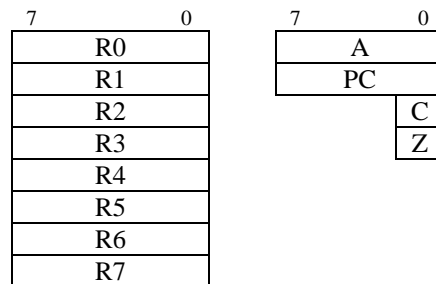

Figure 1 Programmer's model
Wimp51 uses a subset of the 8051's instruction set. It's name comes from the fact that the designer constructed it over a weekend and it is intended for instructional use, not for heavy-duty computation! The Wimp51 has a simpler structure than the 8051 as might be expected. The programmer sees Wimp51 as a collection of registers. We often refer to this as the *programmer's model* of a computer. The Wimp51 has an eight bit accumulator (A), eight 8-bit registers R0 through R7, a program counter PC, a carry flag (C), and a zero flag (Z). The C bit is a one bit register that holds the carry out of an addition. The Z flag is actually just all of the accumulator bits NOR'ed together. If all of the bits of the accumulator are equal to zero, the Z flag is equal to 1, otherwise equal to 0. Wimp51 requires an external read-only memory in which to store encoded instructions and has address, data, and control buses to communicate with its memory. The most significant bit of a register is numbered 7, while the least significant bit is numbered 0. The Wimp51 programmer's model is summarized in Figure 1.